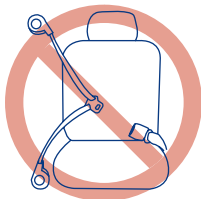

Fig. 16-2
- **DO NOT** use a lap/shoulder belt system if the lap belt and shoulder belt each have retractors at one end. This type of seat belt system will not adequately restrain the Safety Seat (Fig. 16-2).